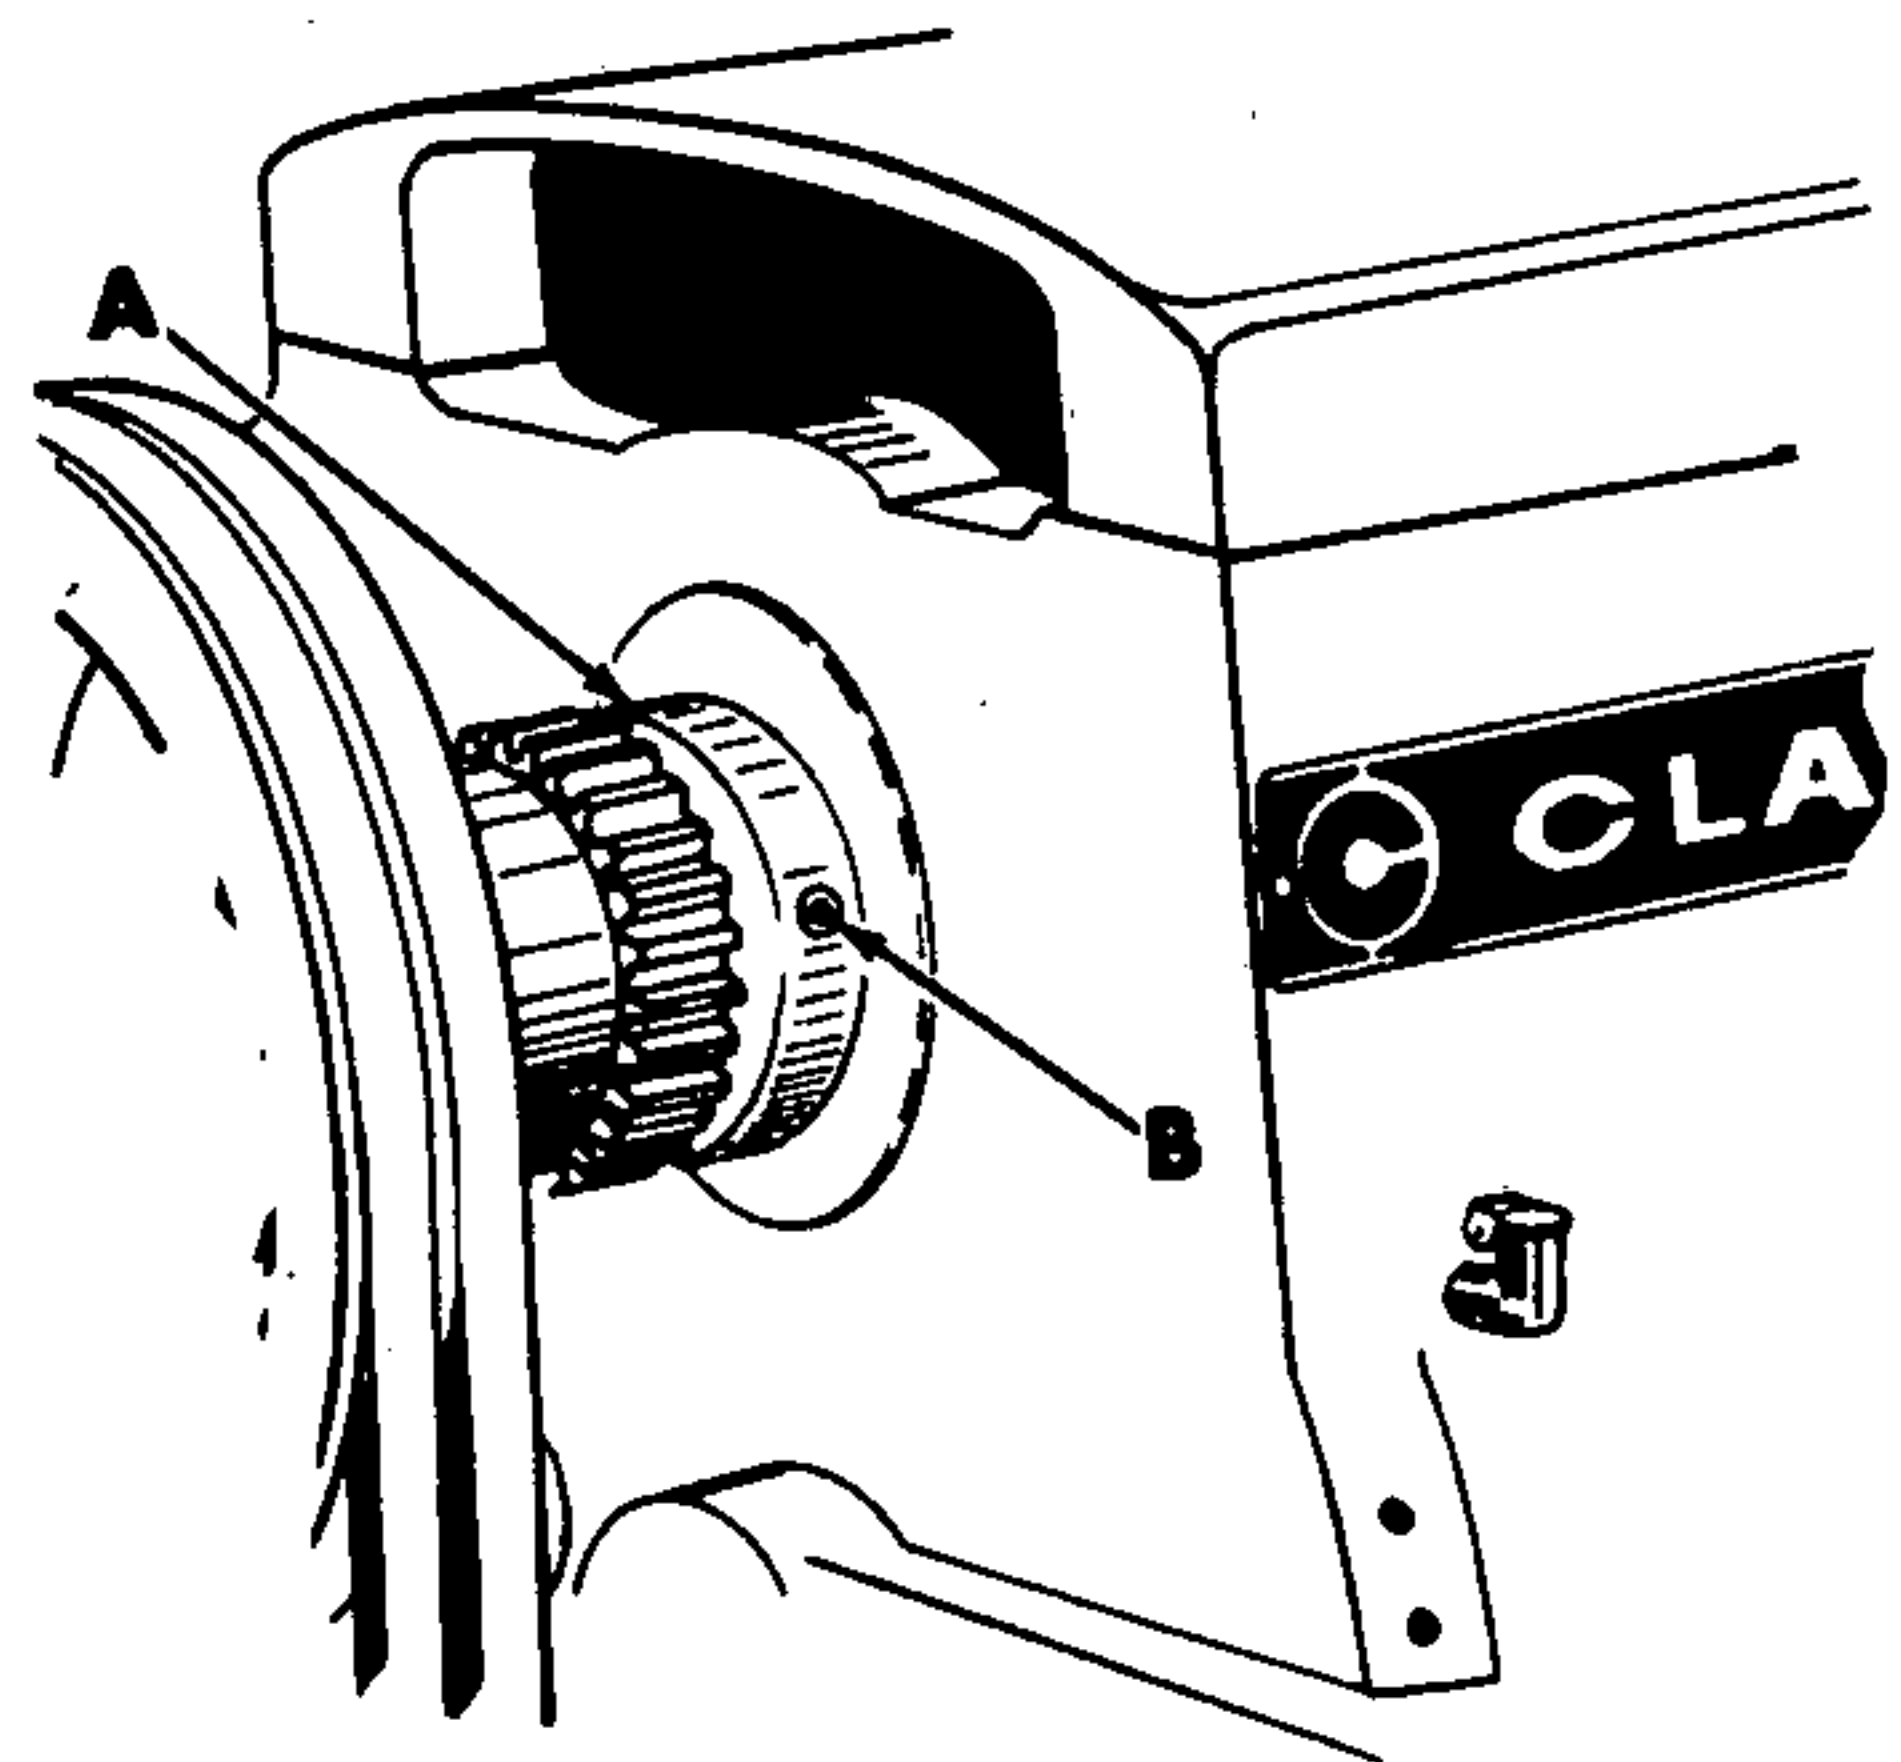

Figure 25
2. Loosen set screw (B, fig. 25) in bearing adjusting nut (A) and tighten nut with spanner wrench until spindle end play has been eliminated.
3. Give driving plate a sharp spin with your hand -- drive plate should rotate about one turn. If it doesn't, adjust nut (A) and recheck.
4. Tighten set screw (B) in adjusting nut.